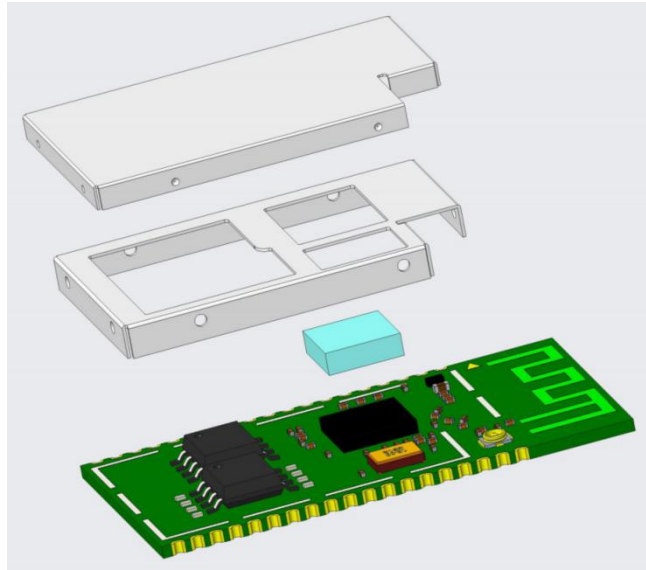

Figure 2.1 Schematic diagram of module structure
- Shielding frame + shielding cover combination structure is adopted, the shielding cover is flexible to install and disassemble, and it is convenient for visual inspection and maintenance. The module structure is shown in Figure 2.1; and heat-dissipating silica gel is added to the chip, and the heat dissipation performance can be optimized up to 5°C in a 25°C working environment. °C, optimized up to 10°C under 85°C working environment.